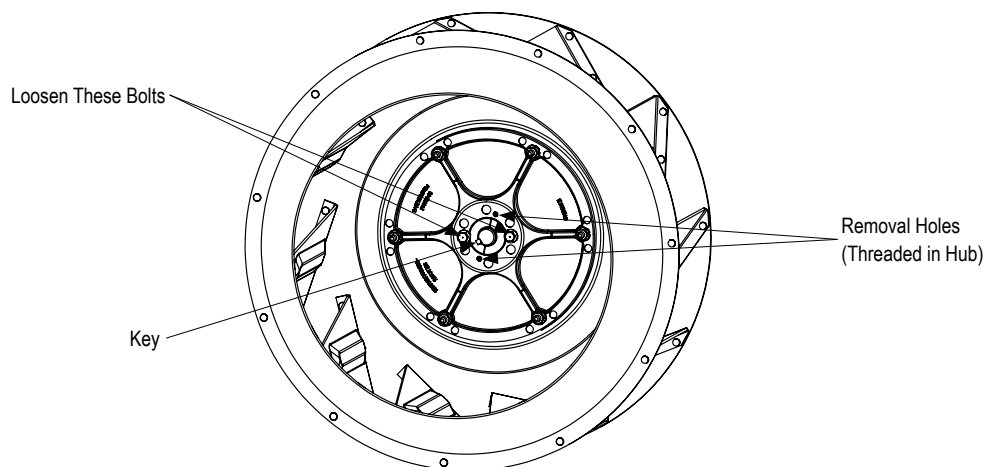

Figure 38 - Wheel Hub size 060 to 222
2. Loosen & remove the bolts from the center of the hub (refer to Figure 38).